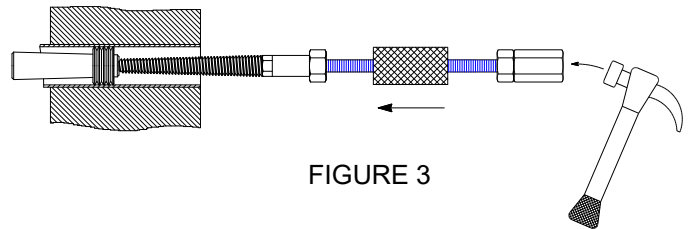

FIGURE 3
3. Hit the end of Removal Tool or use the slide hammer to drive pin back into tube (Figure 3).